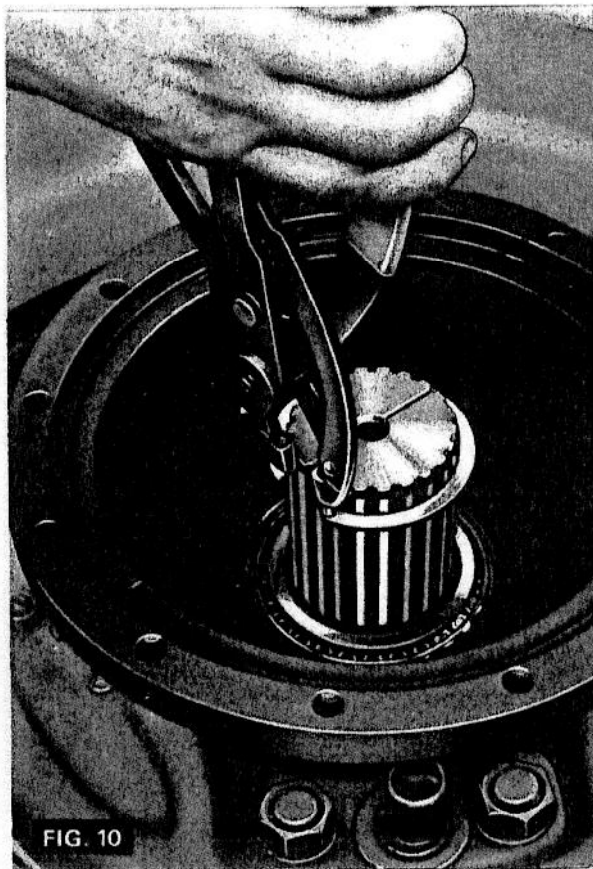

FIG. 10
2. Carry out items 2 to 10 of operation 8A/2.
3. (Fig. 10) Remove the circlip securing the wheel axle bearing to the axle.